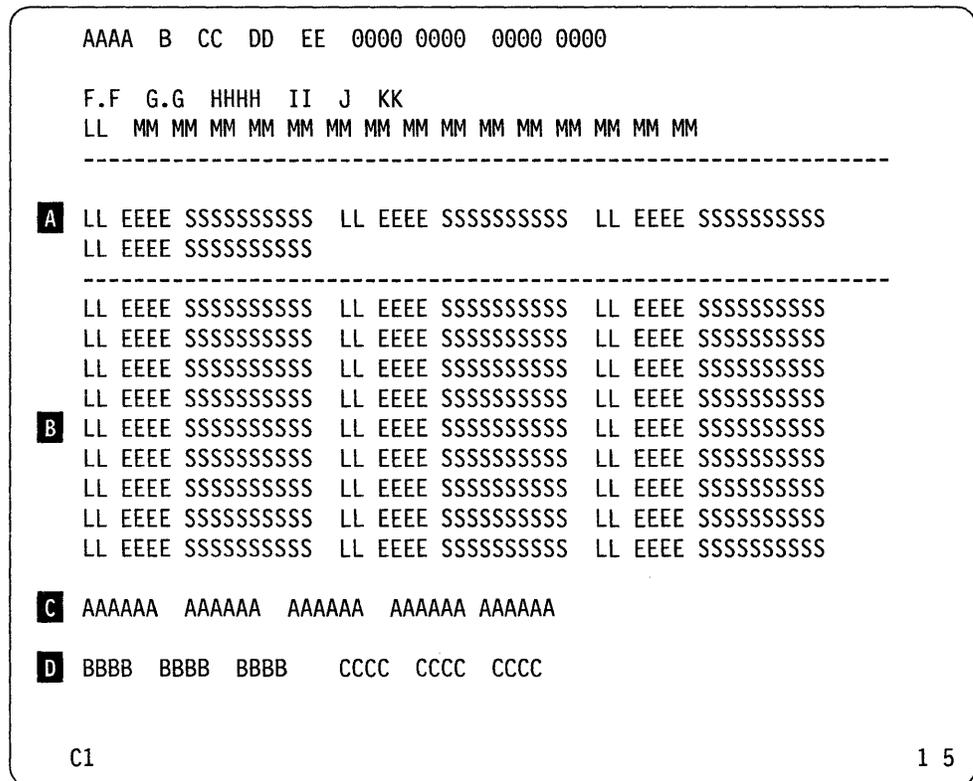

Figure 3-43. C1 Screen
The C1 screen displays the contents of the error log buffer, the hard error (HE) log, and the twinaxial interface error counters. See Figure 3-43.